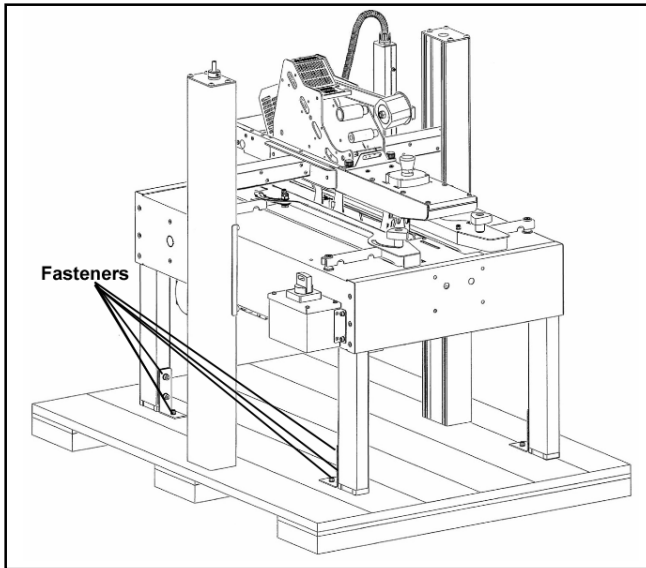

Figure 2-3—Remove Fasteners
- Using a 10 mm combination wrench, remove the fasteners that secure the case sealer legs to pallet at each leg, as shown in Figure 2-3.